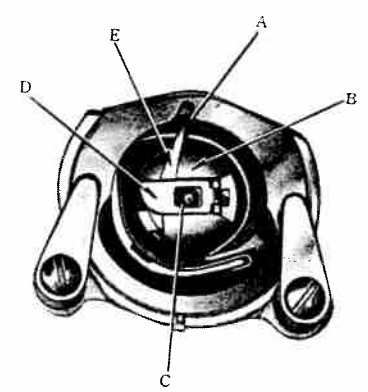

Fig. 11
Raise needle bar to highest position, and slide cover plate to the left. (See 18. Fig. 1) Hold the bobbin case latch, (D), Fig. 11, between the thumb and forefinger of the left hand, with at least three inches of thread running from the top of the bobbin case to the right. Insert and center the bobbin case on the stud of the shuttle body, (C). Be sure the bobbin case finger, (E), is opposite the shuttle race notch (A). Press the bobbin case (B) into the shuttle as far as possible until latch catches on the center post of the shuttle. THEN release the bobbin case latch, (D). Press bobbin case again after latch has been released to make sure the bobbin case is locked securely in place. Close the cover plate.